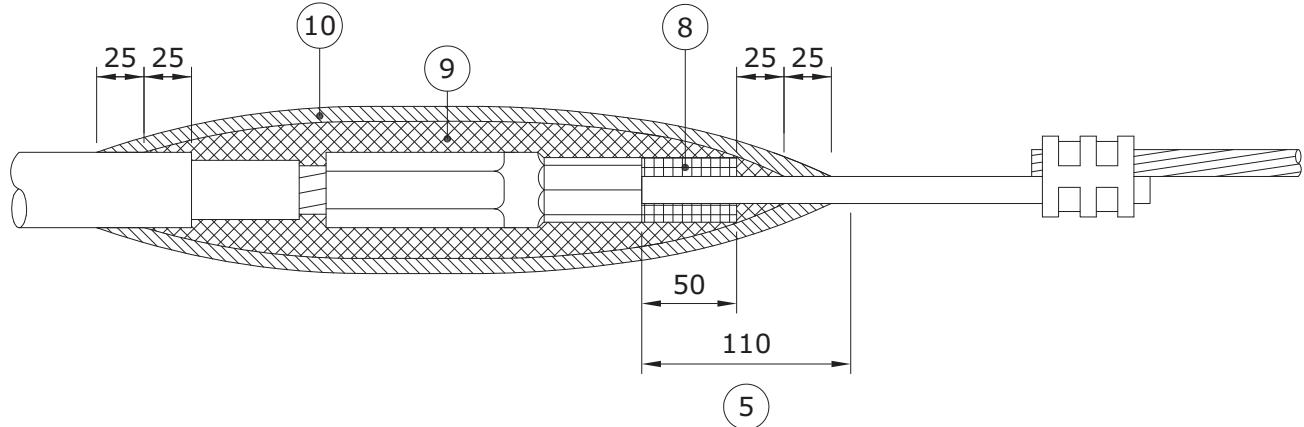

FIGURE 2
- ⑤ ABRASE ROD PORTION OF ROD CONNECTOR WITH ABRASIVE TAPE AS SHOWN IN FIGURE 2.
- ⑥ CLEAN JACKET, INSULATION & ROD CONNECTOR WITH AN APPROVED CLEANING SOLVENT (S.C.# 43 11 95).
- ⑦ CUT ONE PIECE OF RUBBER MASTIC TAPE (S.C. 78 55 28) INTO EITHER A 50mm WIDE x 75mm LONG STRIP FOR 1/0 CONNECTOR OR A 50mm WIDE x 125mm LONG STRIP FOR 4/0 CONNECTOR.
- ⑧ APPLY THE PRECUT STRIP OF RUBBER MASTIC TAPE 1/4 STRETCHED, SHINING SIDE DOWN ONTO THE ROD AS SHOWN IN FIGURE 2.
- ⑨ APPLY 2 LAYERS OF HALF LAPPED 3/4 STRETCHED SELF AMALGAMATING ETHYLENE PROPYLENE RUBBER TAPE (S.C.# 78 55 23) AS SHOWN IN FIGURE 2.
- ⑩ APPLY 2 LAYERS OF HALF LAPPED 3/4 STRETCHED COLD WEATHER VINYL TAPE (S.C.# 78 55 98) AS SHOWN IN FIGURE 2.